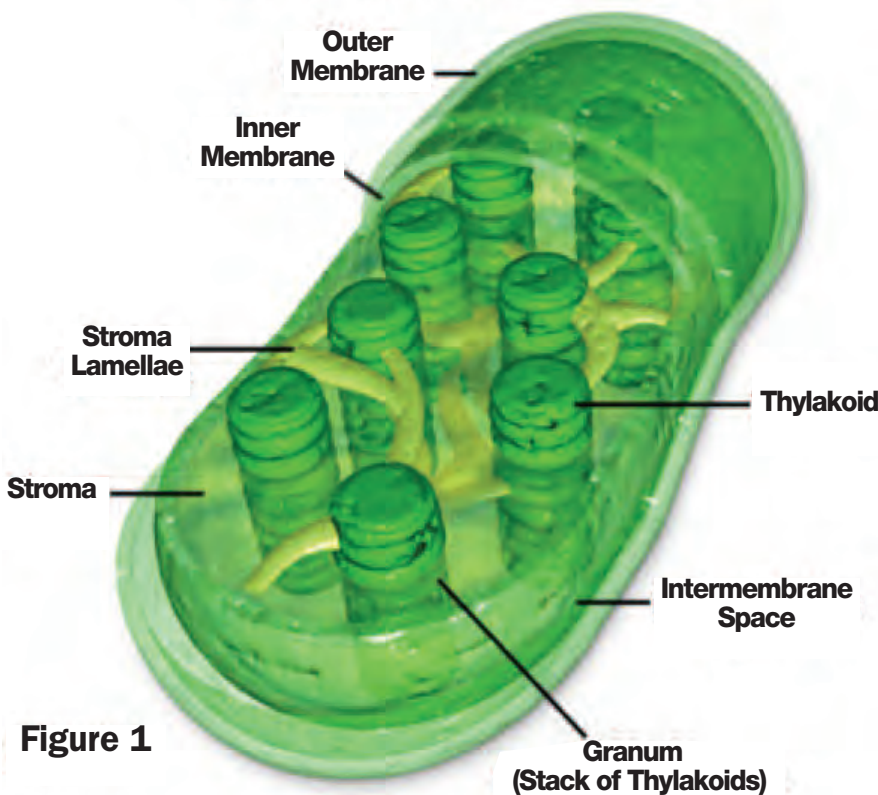

Figure 1
rently in the process of regulating fertilizer inputs such as nitrogen (N) and phosphorus (P) source and timing of application (see Figure 1). In Connecticut, schools and municipalities are moving toward an organic program mandate. Natural organic fertilizer sources have effectively escaped regulation in many states because the P cannot be removed from manure or compost. Source ingredients and the manufacturing process of natural organic fertilizers differ, so you should familiarize yourself with the benefits and potential disadvantages of these formulations before making a purchasing decision. Interestingly, many existing and future laws are not based on science, but perception. Poorly written laws produce unintended consequences such as reduced turf vigor and subsequently more leaching, weeds, soil erosion, and runoff. If possible, get involved! Find out what laws may be in the pipeline in our local community and fight for what you believe in; you can take it as far as you see necessary or have the available time to pursue.